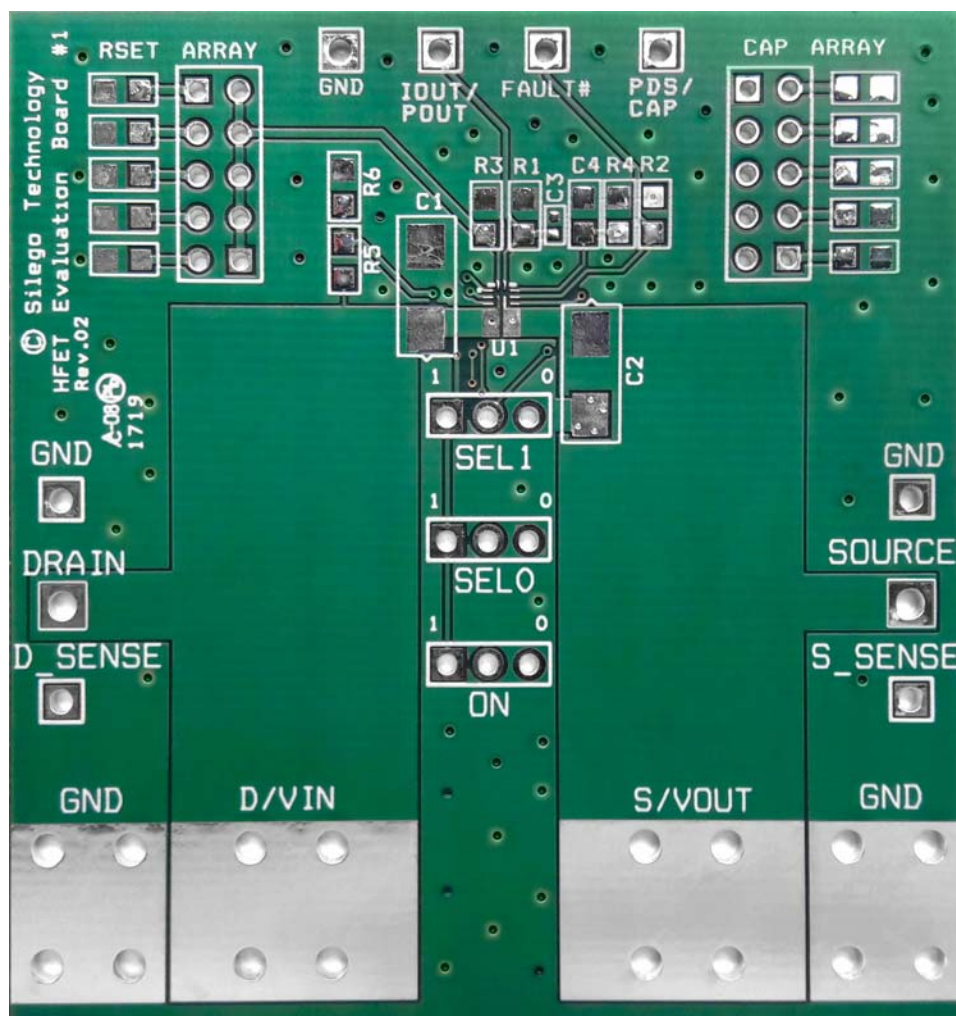

Figure 26. SLG59H1017V Evaluation Board
1. Since the VIN and VOUT pins dissipate most of the heat generated during high-load current operation, it is highly recommended to make power traces as short, direct, and wide as possible. A good practice is to make power traces with absolute minimum widths of 15 mils (0.381 mm) per Ampere. A representative layout, shown in Figure 26, illustrates proper techniques for heat to transfer as efficiently as possible out of the device;
A HFET1 Evaluation Board for SLG59H1017V is designed according to the statements above and is illustrated on Figure 26. Please note that evaluation board has D_Sense and S_Sense pads. They cannot carry high currents and dedicated only for RDS_{ON} evaluation.